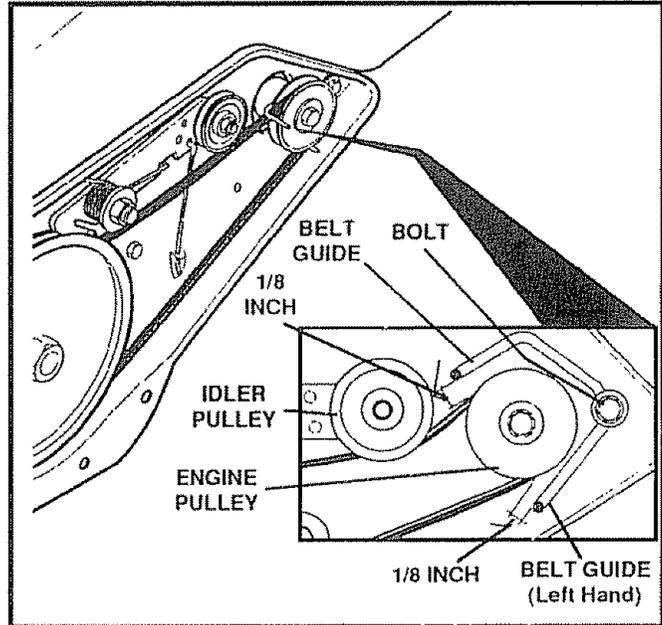

FIG. 14
There are two belt guides on your snowthrower. After you replace an auger drive belt, you need to adjust one or both of the belt guides (See Fig. 14). Proceed as follows:
- Remove the (3) screws from the access panel on the rear of the top cover.
- If adjustment is necessary, move the belt guides to the correct position. (See Fig 14)